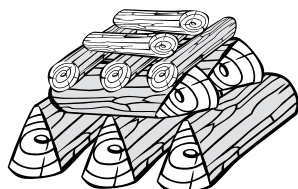

FIG. 7A
2. Open the door of the fireplace and on the bottom of the chamber place the dose of fuel recommended for your type of the fireplace insert against the rear wall. First place the larger pieces of wood, then smaller pieces (**FIG. 7A**).